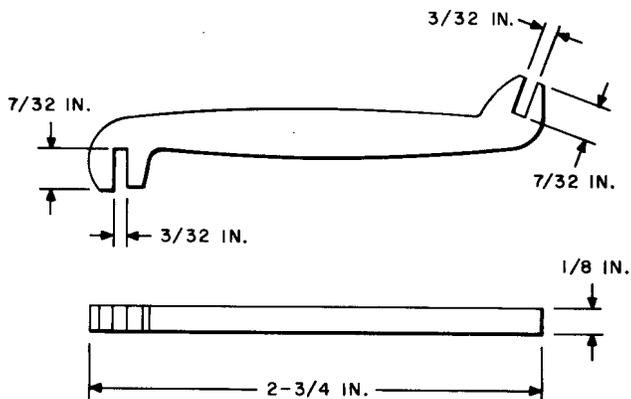

Fig. 3—AECO H-7067 Adjuster Tool
**2.03 AECO H-7067:** The AECO H-7067 tool (Fig. 3) is an adjuster used on 197- and 198-type switches and solenoid-type master switches.